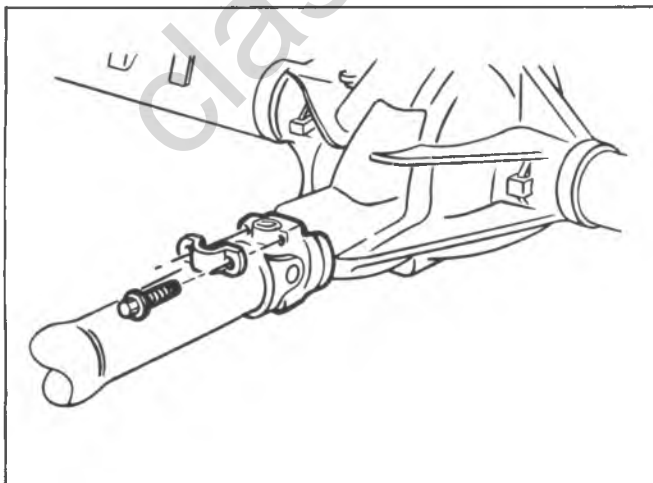

Fig. 4A-6--Strap Attachment
Due to length of the propeller shaft it may be more convenient to use a bench vise, for removal and installation, instead of an arbor press. In this case, proceed with disassembly and assembly procedure as with an arbor press Fig. 4A-8 and 4A-9.
3. Using a suitable socket or rod, press on trunnion until bearing cup is almost out. Grasp cup in vise and work cup out of yoke. See figures 4A-8 and 4A-9. The bearing cup cannot be fully pressed out.